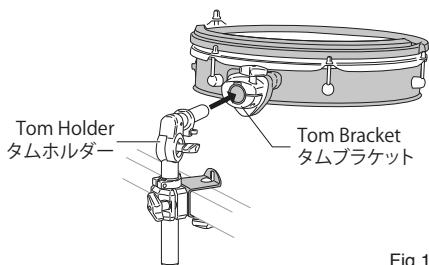

Fig.10
2. Attach the Toms to the Tom Holders and position the height and angles to your preference. When done, set the tab on the Stop Lock into the slot on the Pipe Clamp and Tom Holder Bracket. Then tighten the Key-Bolts with the provided Drum Key to retain the setting (Fig.10).
タムホルダーの位置と角度を調整します (Fig.10)。